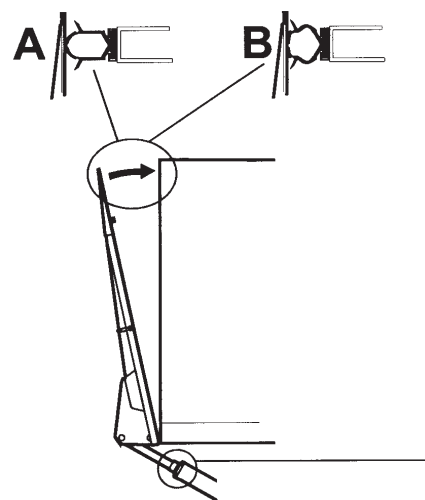

Figure 46. Adjusting the fit to the vehicle body
4. Turn the adjuster sleeve until the platform fits perfectly against the seal on the body. Figure 46.
5. Turn the adjuster sleeve until the platform fits perfectly against the seal on the body. Figure 46.
10. Adjust both cylinders alternately until the platform touches the vehicle body; see Figure 46 (B).